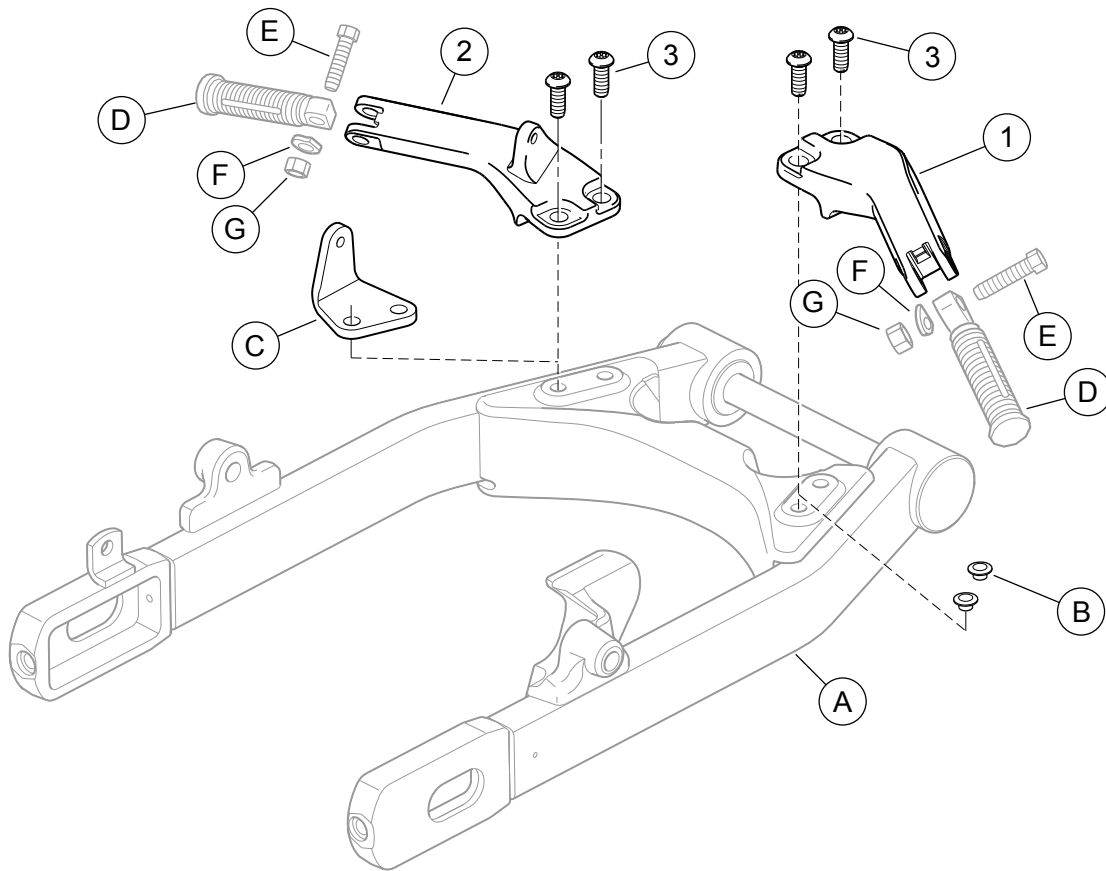

Figure 5. Service Parts: Passenger Footpeg Mounting Kit
See Figure 5 and Table 1.
- Remove the two hex head cap screws (4) that attach the belt guard mounting bracket (5) to the rear fork. Discard the bracket and screws.
- See Figure 5. Remove and discard the two plastic hole plugs (B) from the rear fork (A), if installed.
- See Figure 5. Install the left side footpeg support (2) to the mounting location as shown, and tighten the screws (3) to 34–47 N·m (25–35 ft-lbs).
- Install the right side footpeg support (1) with screws (3). Tighten the screws to 25–35 ft-lbs (34–47 Nm).
- For Models Equipped with Stock Footpegs:** See Figure 5. Install the passenger footpegs (D) on each footpeg support as shown, using a hex head cap screw (E), spring washer (F) and locknut (G). Tighten the nut to 9.5–12.2 N·m (84–108 in-lbs). Repeat for the other side.